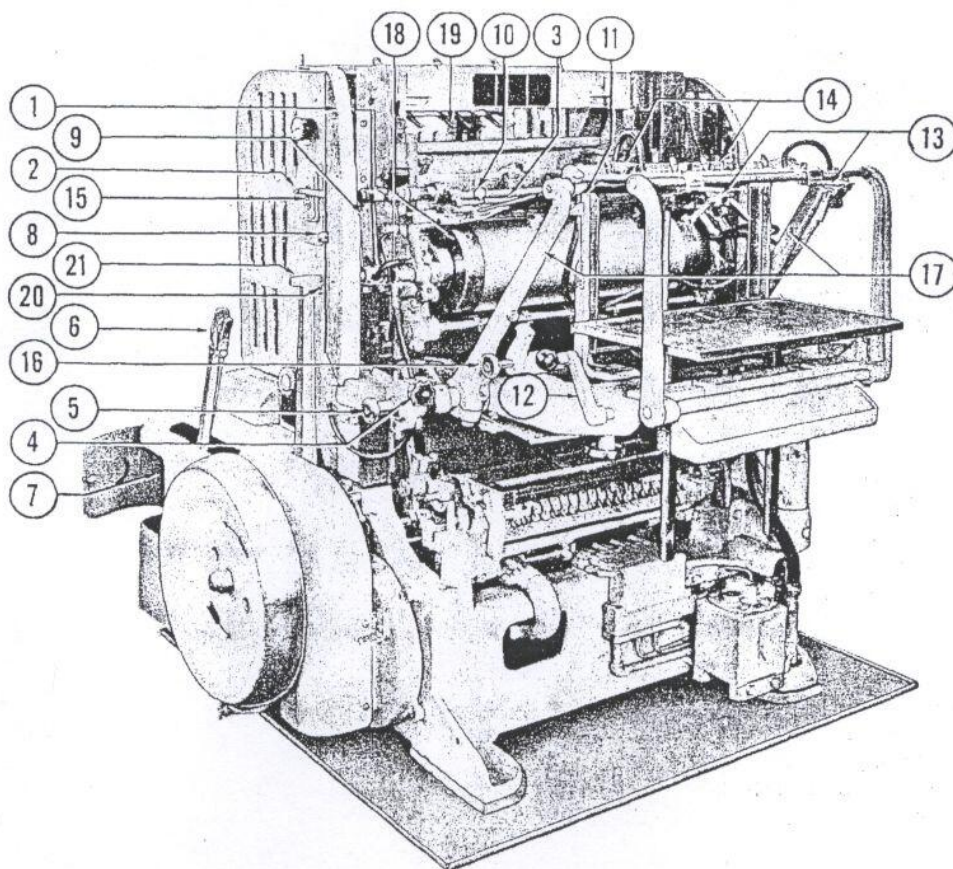

Figure 11—Starting Press
a. PROCEDURE FOR STARTING PRESS. (See figure 11:) Before starting press, turn flywheel manually one complete cycle to be sure that there is clearance for all moving parts.
(1) Make certain power is off by opening left end cylinder guard (1), thereby tripping the "STOP" (red) motor control push-button (2).
(2) Attach transfer table (3). (Refer to paragraph 1, page 14).
(3) Lock feeder (4) in operating position (refer to paragraph 7, page 14) and then pull feeder control air valve handle (5) to its out position.
(4) Release belt-tightener lever (6) (extreme left position).
(5) Install 3,000 I.P.H. (smallest) change pulley (7). (Refer to paragraph 4, page 21).
(6) Turn automatic stop control knob (8) so that red button is in its down position.
(7) Close the left end cylinder guard (1).
(8) Check that side-guide shifting cam (9) is positioned for left side register and then set left side guide (10) at $9\frac{1}{2}$. (Refer to paragraph 2, page 14).
(9) Set left side front pile guide (11) so that "0" alignment marking is at $9\frac{1}{2}$. (Refer to paragraph 1, page 12). Position opposite pile guide to suit size of sheet to be used for check-run (11" x 17" medium weight stock is recommended).
(10) Lower feeder pile table by turning crank (12) and then place a few sheets of stock on table.